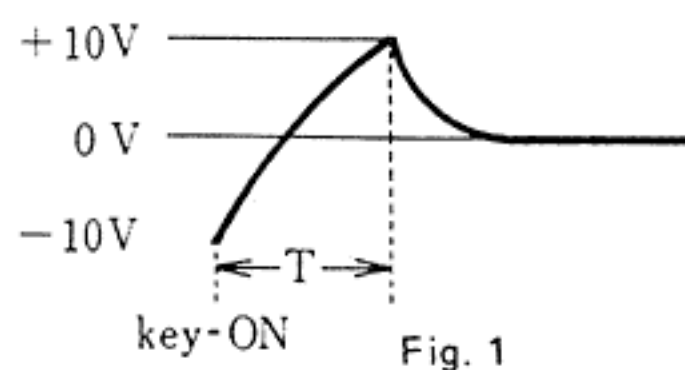
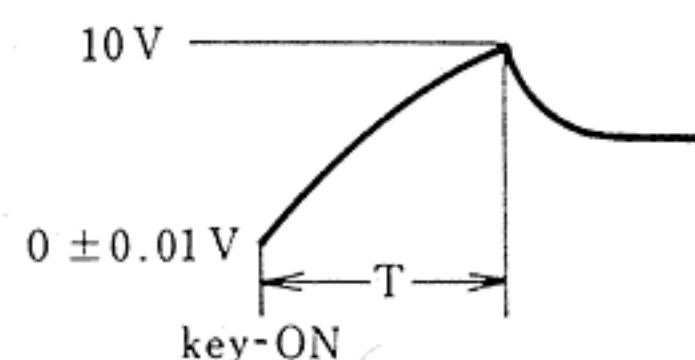

Fig. 1
Fig. 2
- a. Set the MOD-VCO2 (PVR4) to 10. Then, when the C₆ key is switched ON (KV terminal; 2 ± 0.001 V) adjust **VR 6** at TP1 for a value according to Fig. 1. Now, when the C₃ key is switched ON (KV terminal; $+250 \pm 0.1$ mV), adjust **VR 5** according to Fig. 2. Repeat these adjustments, making sure there is no deviation in the adjusted value, even during switching.
Turn the ATTACK TIME Lever (PVR12) until $+8 \pm 0.1\text{V}$ is obtained at TP3. Adjust VR 6 so that the rising curve as shown in Fig. 1 with T of $4 \pm 0.1\text{mS}$ is obtained from terminal A (3-1) when the key is ON (-7V is applied to the terminal TR (1-5). In addition, adjust VR 5 so that the voltage is levelled off at $0 \pm 0.1\text{V}$ 5 seconds or later after the key has been turned ON.
Turn ATTACK TIME lever (PVR15) until $+8 \pm 0.2\text{V}$ appears at TP4. Adjust VR 9 so that the rising curve as shown in Fig. 2 is obtained from terminal C (3-7) with T of $4 \pm 0.1\text{mS}$ when the key is ON (-7V is applied to terminal TR (1-5). Also adjust VR 8 so that the voltage is levelled off at $0 \pm 0.01\text{V}$ 5 seconds or later after the key is ON.
a. The waveforms shown in Fig. 1, Fig. 2, Fig. 3 and Fig. 4 should be obtained at terminals  (③-8),  (③-7),  (③-9) and  (④-1) respectively.